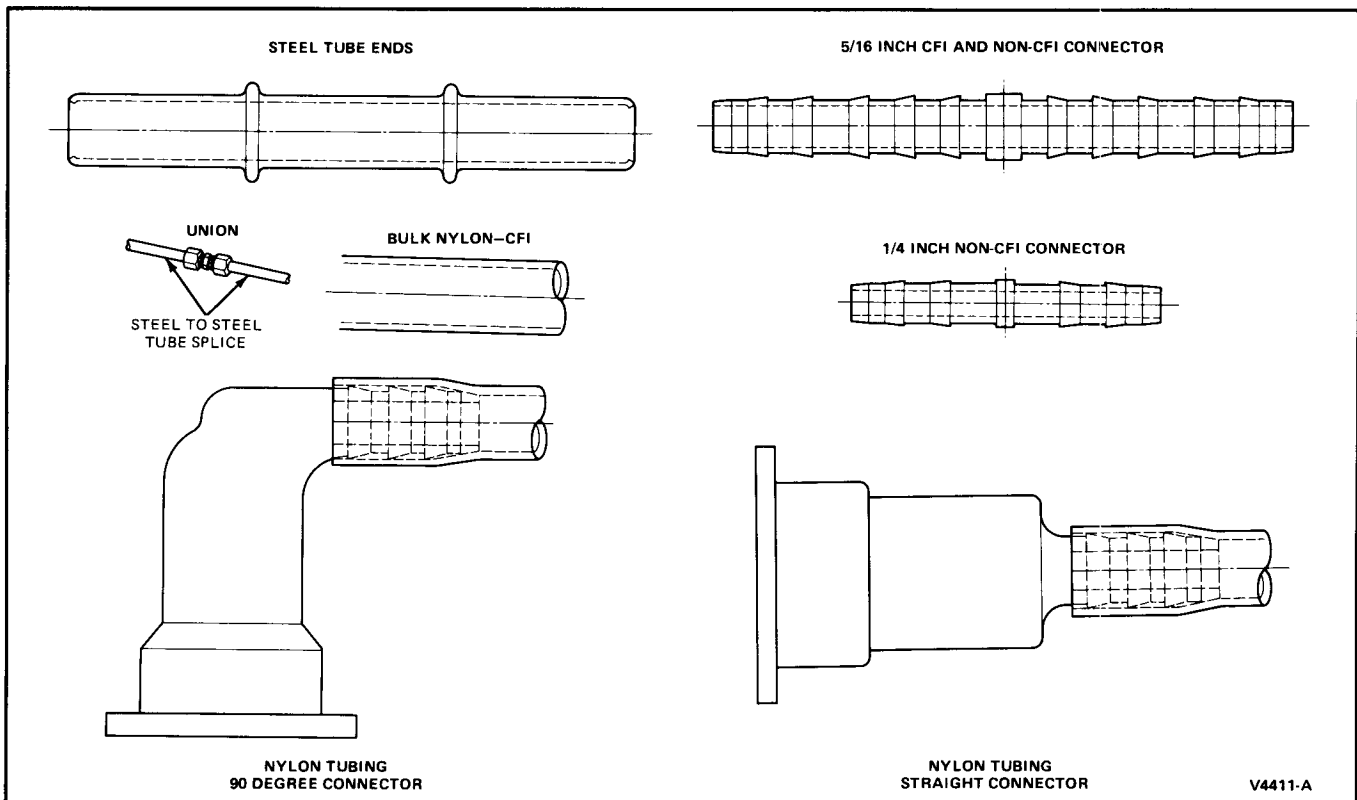

FIG. 4 Fuel Line Service Parts
All replacement hoses can be serviced using approved service parts shown in Fig. 4.
3. Choose a proper replacement push connect tube end (refer to Fig. 4).
5. Select the proper size union (Fig. 4) and attach the new steel tube end to the original tube.